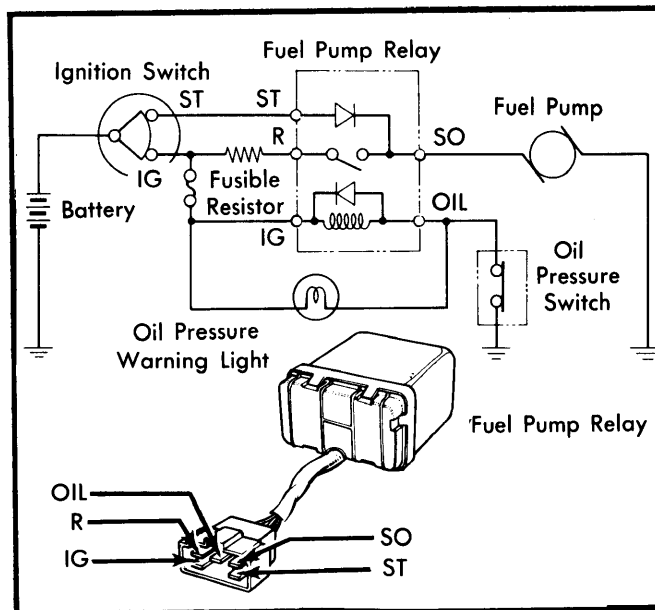

Fig. 3 Fuel Pump Control System Circuit
- 2) Disconnect connector from oil pressure switch, to operate fuel pump relay. See Fig. 3.